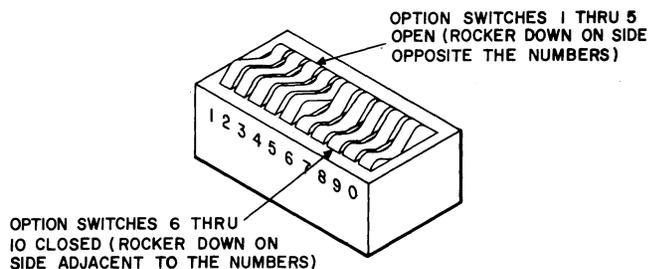

Fig. 1—Option Switch
2.03 The data set output level is controlled by the switch settings on switch S3 (DS 202S-L1 and -L1A) or S4 (DS 202S-L1C) (Fig. 1 through 4). The output level (transmit line signal level) must be set so that the level of the signal reaching the central office does not exceed -12 dBm. The output level is determined by the following formula: the data set output should be equal to the sum of the desired power level at the central office (-12 dBm) and the loop loss. For example, if the loop loss is 5 dB: